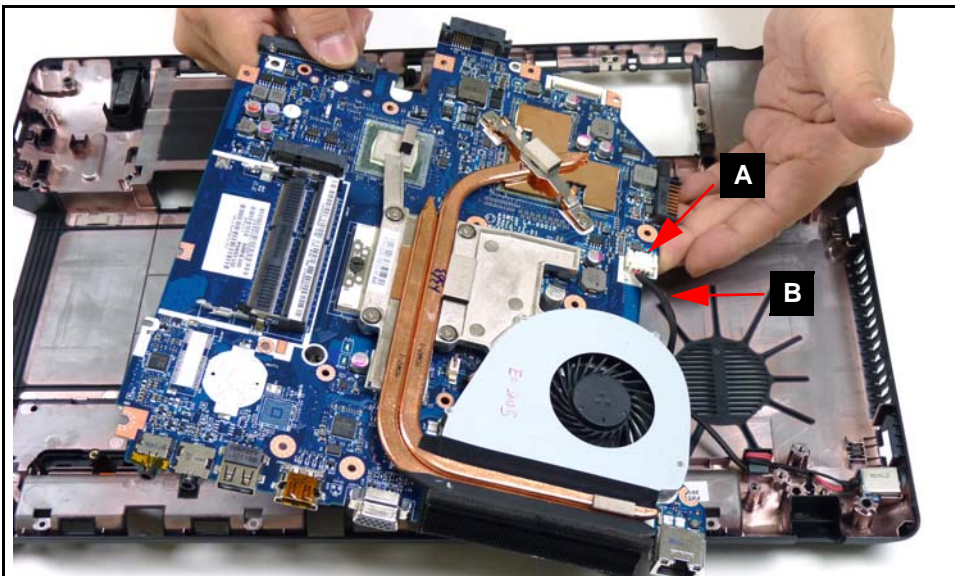

Figure 3-46. Mainboard DC-IN Connector
6. Remove mainboard from lower cover by pulling away from left side (A).
7. Flip mainboard over to show DC-IN connector on mainboard (Figure 3-46).
1. Connect DC-IN (B) cable to mainboard connector (A). Refer to Figure 3-46.